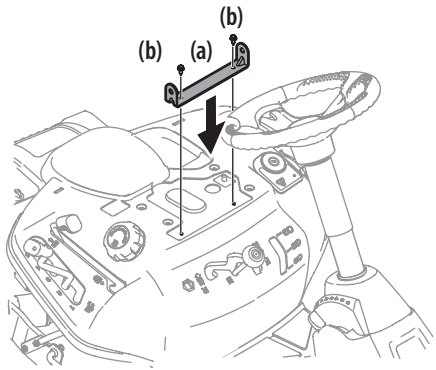

Figure 8
3. Align the seat bracket (a) in place over the holes from where the self-tapping bolts (b) were removed, as shown in Figure 8.